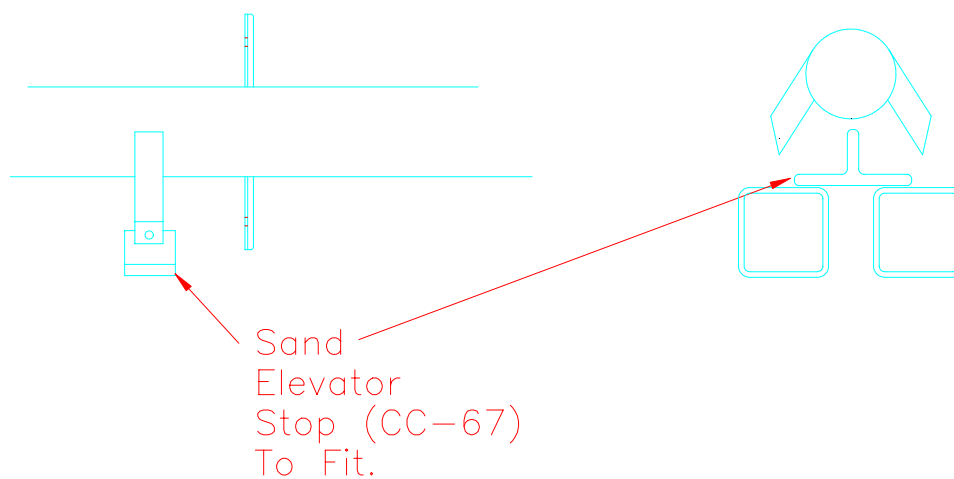

Figure 15.5.3
- 3) Locate and mark the position of the elevator stop (CC-67). **NOTE:** Make sure the stop is centered on the two tabs welded on the Torque Tube. Figure 15.5.3.